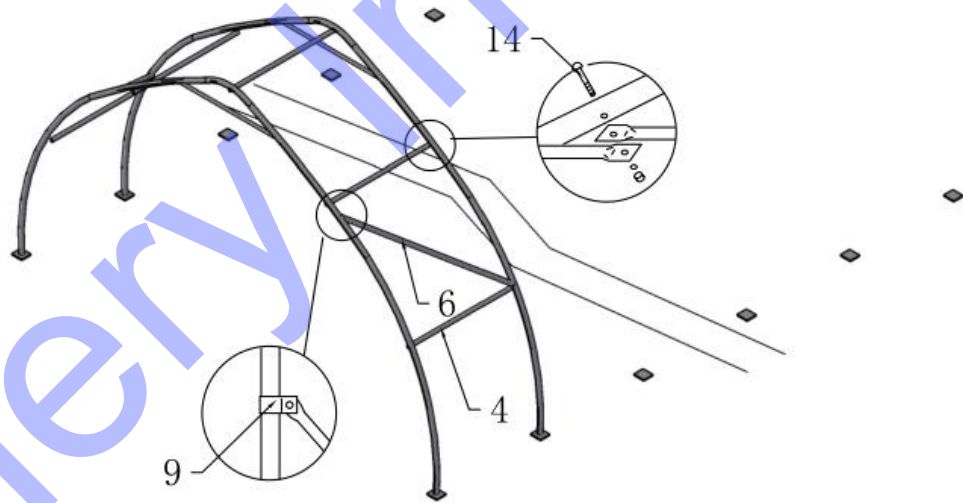

Figure 7
2. Connect the Support Crossbeam for roof cover and Diagonal Bracing Tube (No.6) and clip (No.9) for frame as Figure 7 shown.